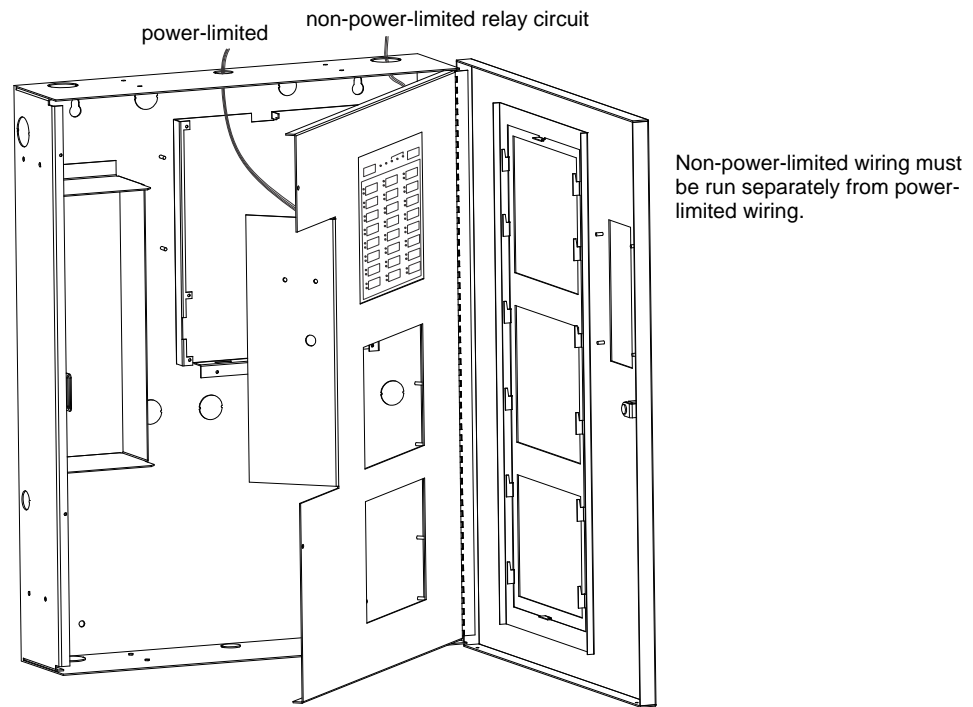

Figure 3.9 Wire Routing Example
- Route the wiring around the inside perimeter of the cabinet. It should not cross the circuit board where it could induce noise into the sensitive microelectronics or pick up unwanted RF noise from the high speed circuits. See Figure 3.9 for an example.